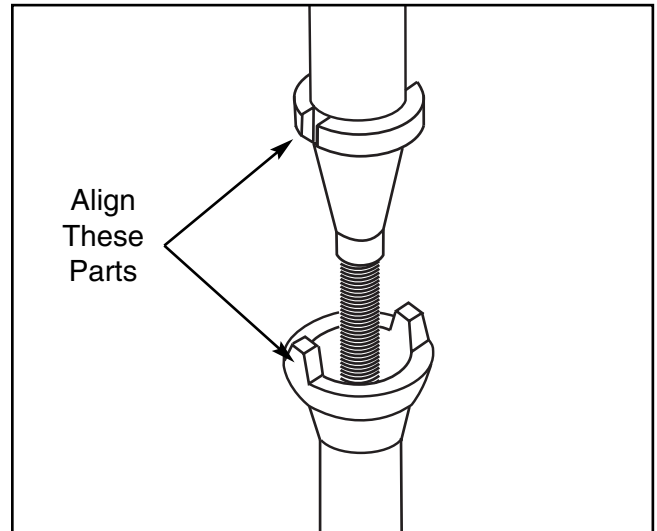

Figure 7. Installing spindle into the cartridge.
3. Make sure the spindle and cartridge are clean and free of the rust inhibiting protective grease. Lower the spindle/drawbar into the spindle cartridge at the top of the table. Line up the keyway on the spindle with the locating pin at the top of the spindle cartridge as illustrated in **Figure 7**. You will feel the spindle seat itself.